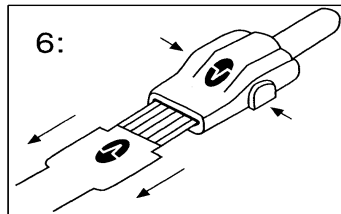

Fig. 29 Disconnecting patient cable and sensor
1. Place thumb and index finger on grey buttons on either side of the patient cable (Fig. 29).